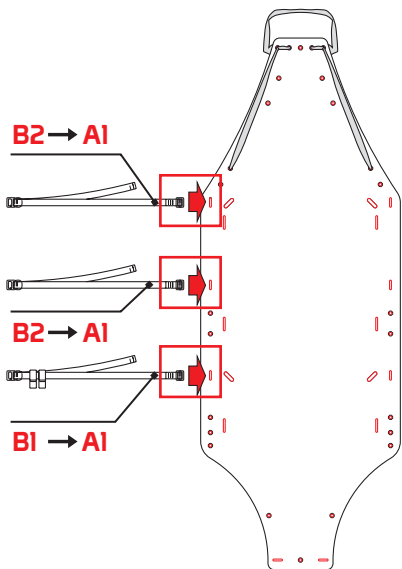

Fig.9
- Insert the slings (B1 and B2) in the A1 eyelets in the support surface (fig. 9).